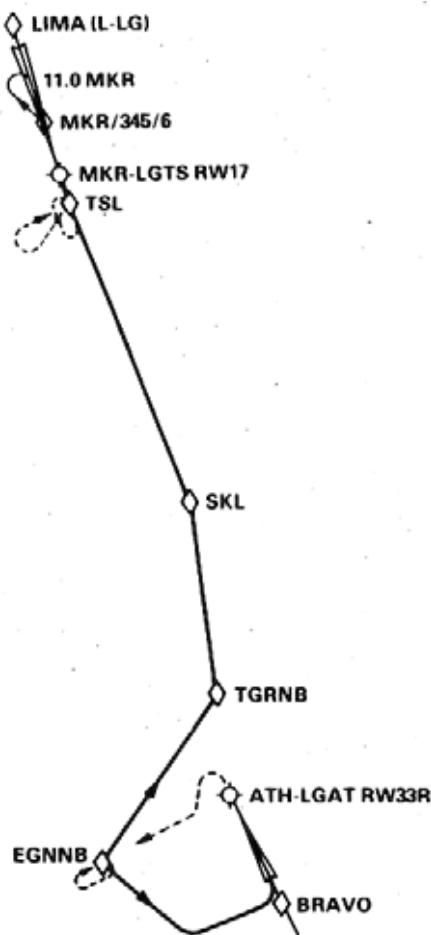

Figure 2-141
The 242 degree radial, in this case, happens to be the published holding radial for EGNNB. The FMS flies the aircraft to EGNNB, along the missed approach path, and executes the correct holding pattern entry, a Tear-drop, based on the angular relationship between aircraft heading and the holding radial (see Figure 2-141, (2)). The dashed line, in Figure 2-141, is the missed approach path and the hold at EGNNB. Referring back to Figure 2-138 (1), the altitude of **600 ←**, with the arrow, means the aircraft turns to a heading of 212 degrees after passing an altitude of 600 ft. The arrow is a Specified Turn arrow, in the direction of the turn - the point or altitude must be sequenced before the turn is executed. (See page 2-9.)
Figure 2-141 shows the primary destination of LGAT (1) Jhe hold at EGNNB (2), and the alternate route to LGTS (3), the alternate airport.
Referring again to Figure 2-141, the route can be built by the PNF, using the enroute waypoints TGRNB, SKL, and TSL. At the same time the PF can establish the aircraft on an intercept to the route, with the FMS engaged in HDG, or do a DIR TO TGRNB, and then string the other two waypoints into the flight plan.